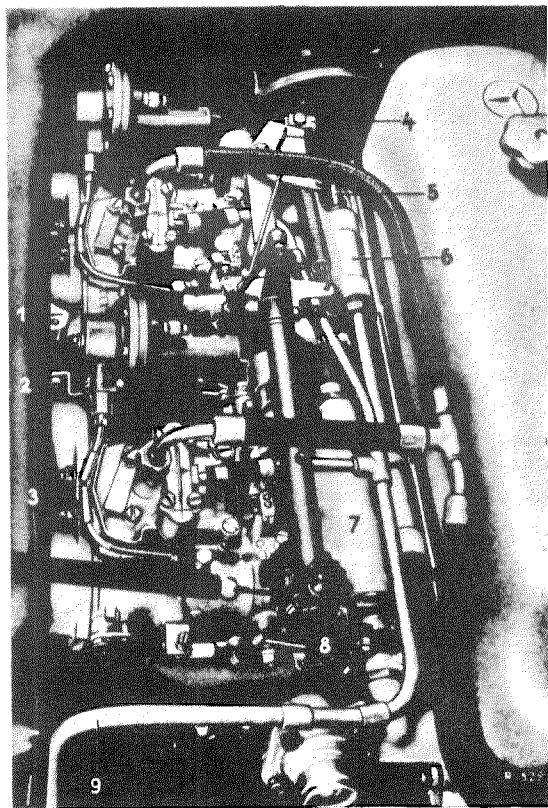

Fig. 01-4/5
Note: It is advisable to remove the carburetor only together with the intake pipes, since otherwise the upper spring washers (2) may drop into the intake pipe and cause damage when the carburetor is removed or installed (see Fig. 01-4/4).
1. Loosen the clamping screw (1) for the sleeve of the choke control on the air suction tube and the clamping screws (2) for the choke control on the choke valve levers of the two carburetors and pull out the cable (Fig. 01-4/5). Also loosen the clamping screw (4) for the hot-start cable and pull out the cable. Then detach the